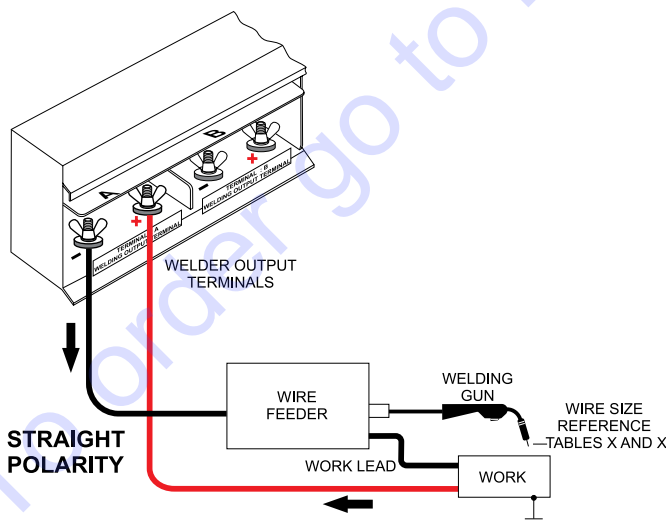

Figure 18. CV Setup (Wire Feeder)
A wire feeder (Figure 18) can be used when in the CV mode. The wire feeder utilizes the power output from the DC welding terminals. Consult the manufacturer's instructions when connecting the wire feeder to the welder-generator.
1. Connect the welding cables from the welder-generator to the wire feeder as shown in Figure 18.